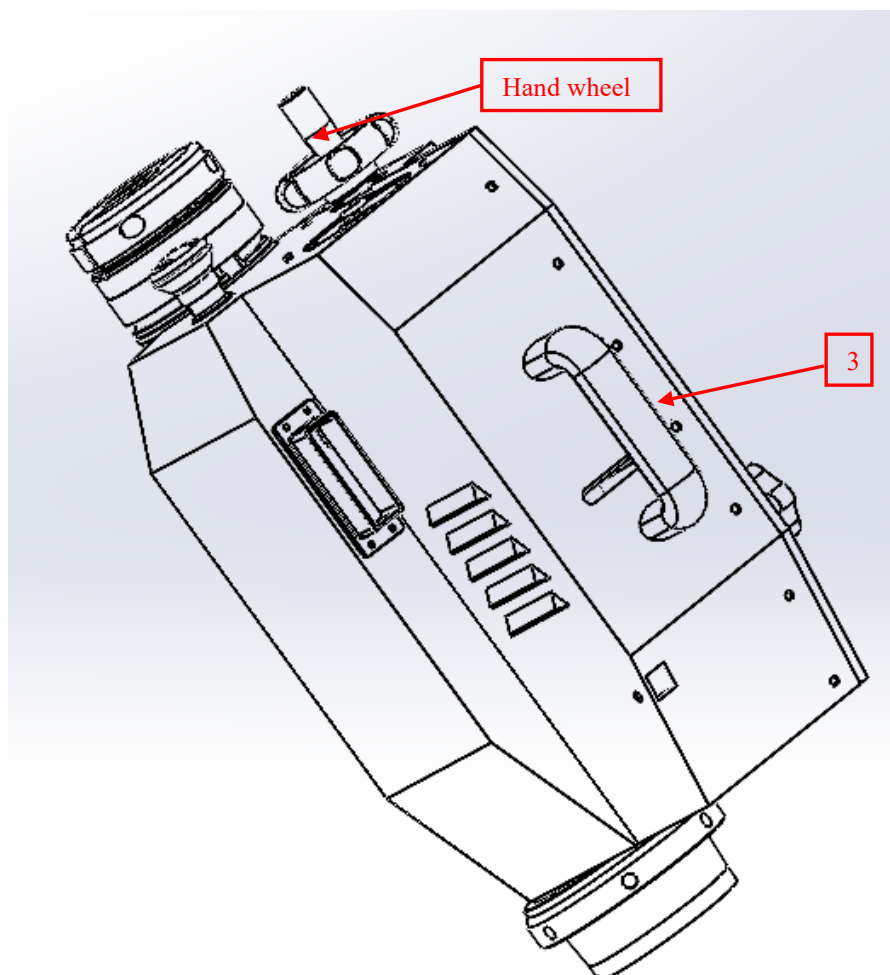

Figure 2.2
- 2.1.6 Unscrew the screws securing the housing at the top, as shown in figure 2.2 – position 3;